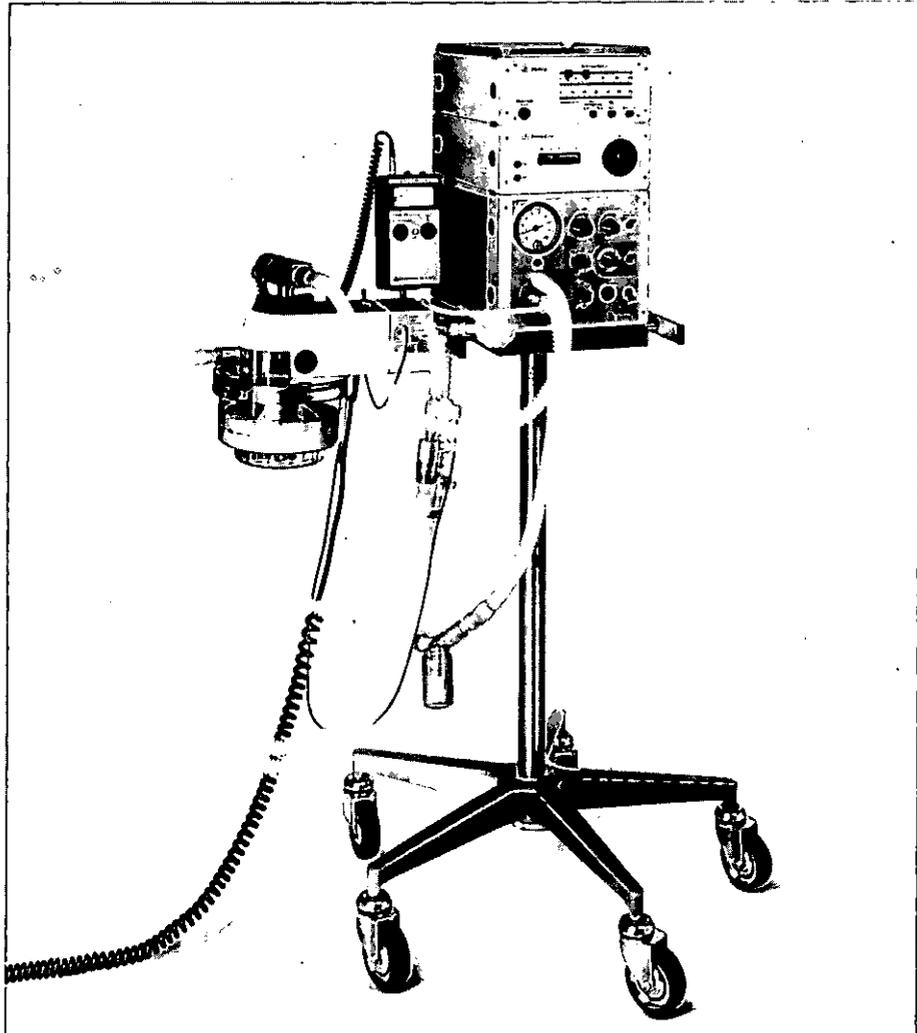

Fig. 11 Babylog 1 on carriage with O₂ blender Polymed, Barolog A, Oxycorn 100 D and humidifier Aquapor with AWT 01
When using the Polymed (Fig. 11)
- For safety reasons, maintain the sequence Babylog 1, Polymed and finally (from bottom to top) an electrically operated unit (e.g., Barolog A) (cf. Fig. 11).
- that the breathing gas temperature is measured in the inspiratory hose (using the AWT 01 measuring instrument at the Aquapor, cf. Fig. 11).